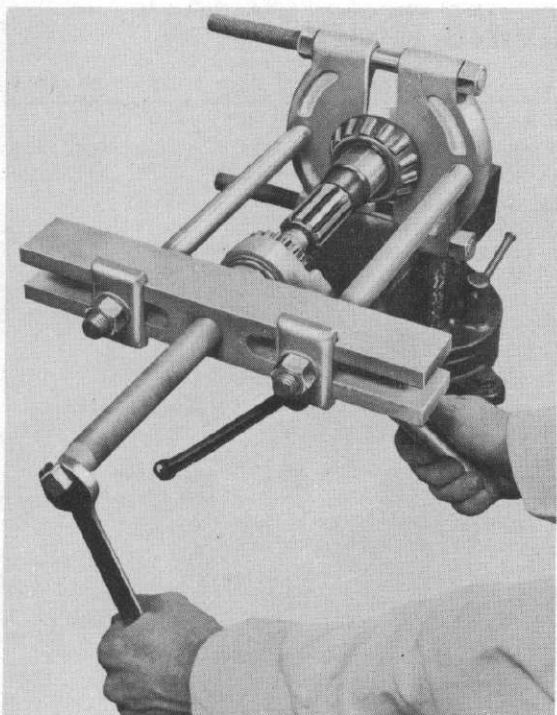

Fig. 4
Step 5—Remove the rear bearing from the pinion as shown in Figure 4.